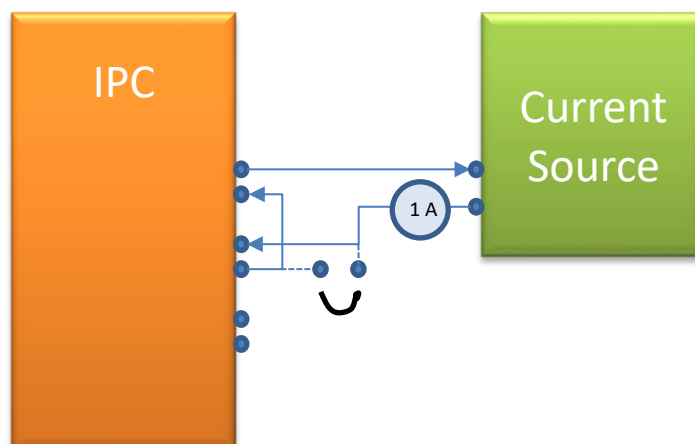

Figure 18. Current injection in two opposing phases.
- a. Inject current with a one or three phase instrument. Check the indications for each function of the front panel of the device, in the *Site manager*, in the *Event log* and, if possible, in the remote control end. See Figure 18.